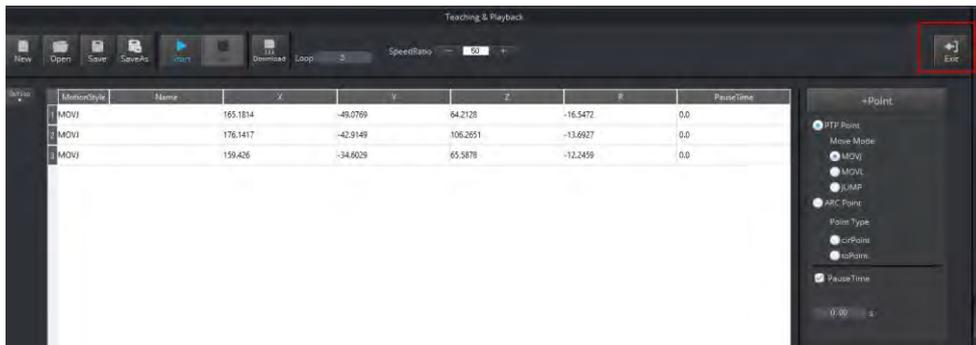

Figure 2.24 Click Exit
- Click  to exit the **Teaching & Playback** page, as shown in Figure 2.24.